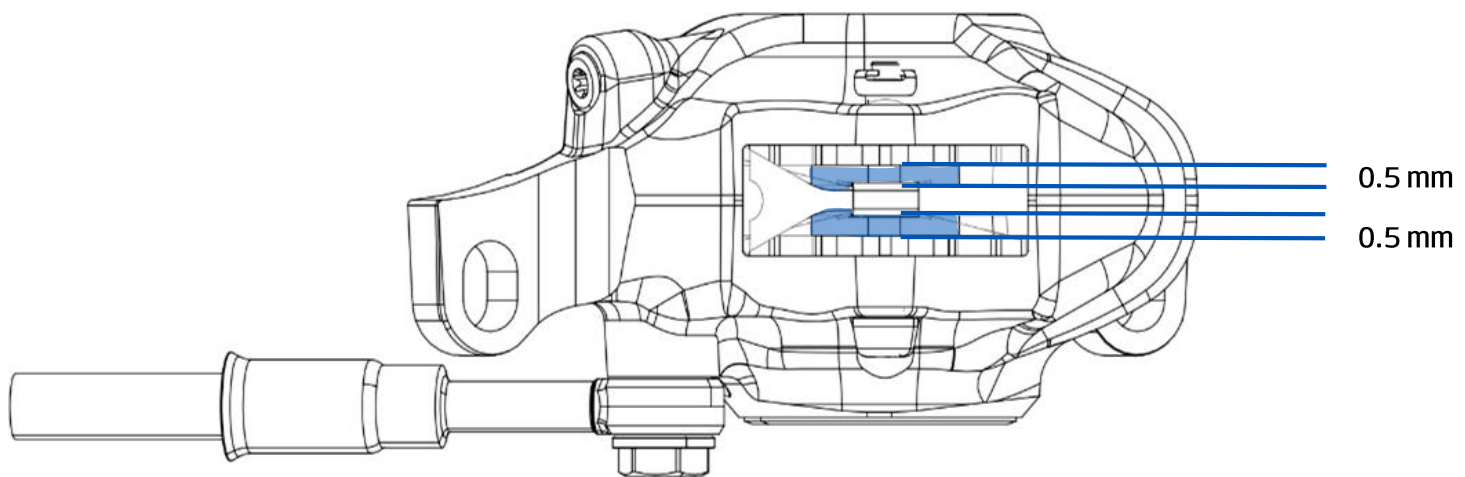

Fig.8
- Check the brake pads and discs. Replace the pads when there is less than 0.5 mm left (Figure 8) and the discs when there is less than 2.0 mm left.